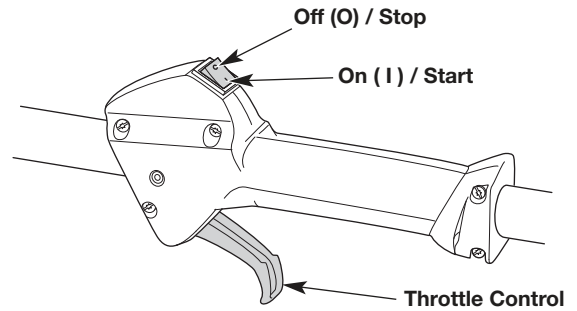
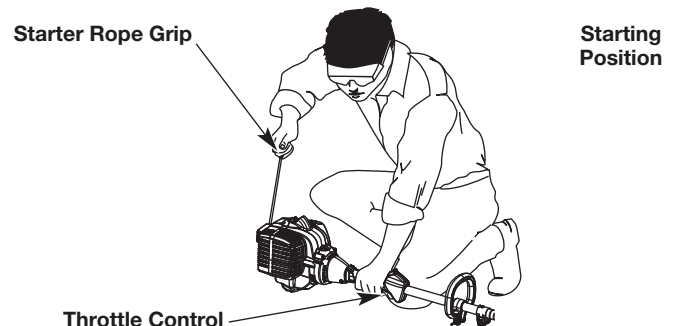

Fig. 9
Fig. 12
WARNING: Avoid accidentally starting the unit. To avoid serious injury, the operator and the unit must be in a stable position when pulling the starter rope (Fig. 12).
NOTE: There is no need to turn the unit on. The On/Off switch is in the ON (I) position at all times (Fig. 9).
5. Crouch in the starting position (Fig. 12).
6. Squeeze the throttle control (Fig. 9) and pull the starter rope with a controlled and steady motion **5 times** (Fig. 12).
2. Press and hold the On/Off switch in the OFF (O) position until the engine comes to a complete stop (Fig. 9).
- NOTE:** There is no need to turn the unit on. The On/Off switch is in the ON (I) position at all times (Fig. 9).
7. Squeeze and hold the throttle control (Fig. 9). Run the electric start accessory for 2 seconds.